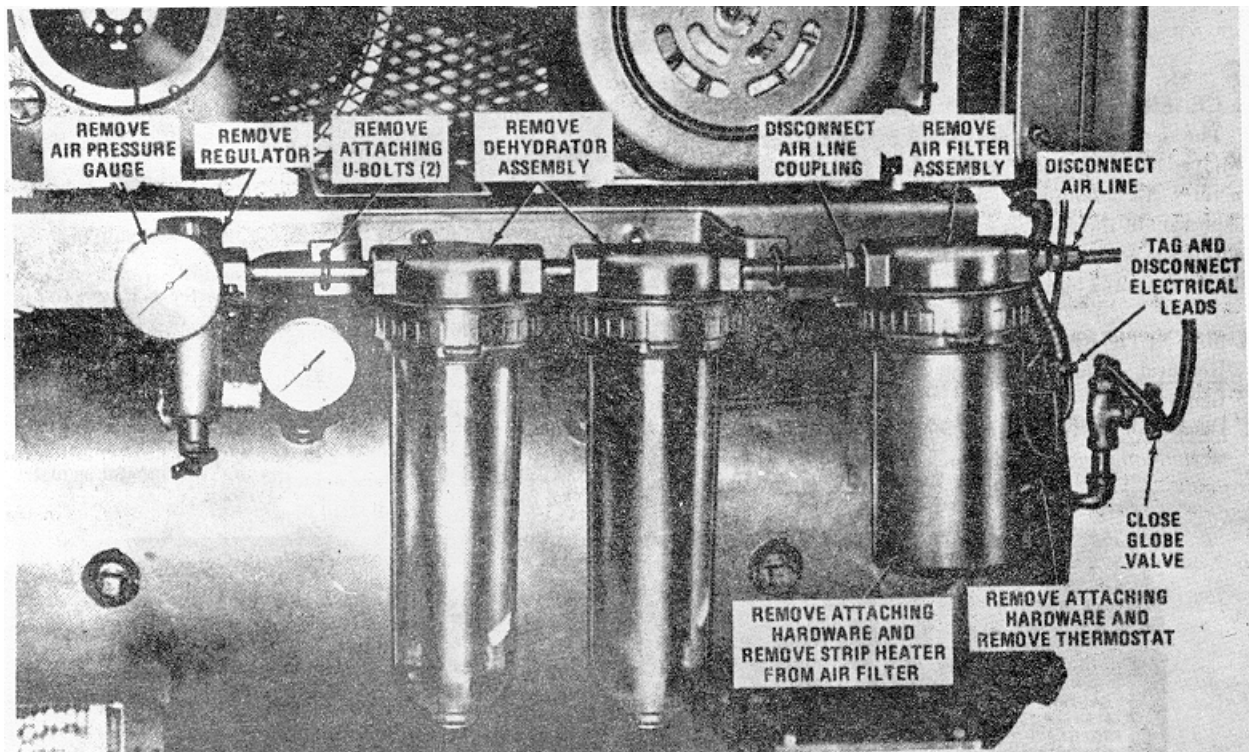

Figure 13. Air filter, strip heater, thermostat hydrator and regulator, removal and installation
1. Removal. Remove strip heater and thermostat as instructed on figure 13. Replace: defective parts, as necessary.
2. Installation. Install strip heater and thermostat as instructed on figure 13.
- b. Remove the air filter as instructed on figure 13.
- a. Install the air filter as instructed on figure 13.
1. Removal. Remove the dehydrator assemblies as instructed on figure 13. Replace defective parts as necessary.
2. Installation. Install the dehydrator assemblies as instructed on figure 13. Refer to Section II D, 2 for installation of desiccant.
1. Removal. Remove the regulator assembly as instructed on figure 13. Replace defective parts as necessary.
2. Installation. Install the regulator assembly as instructed on figure 13.